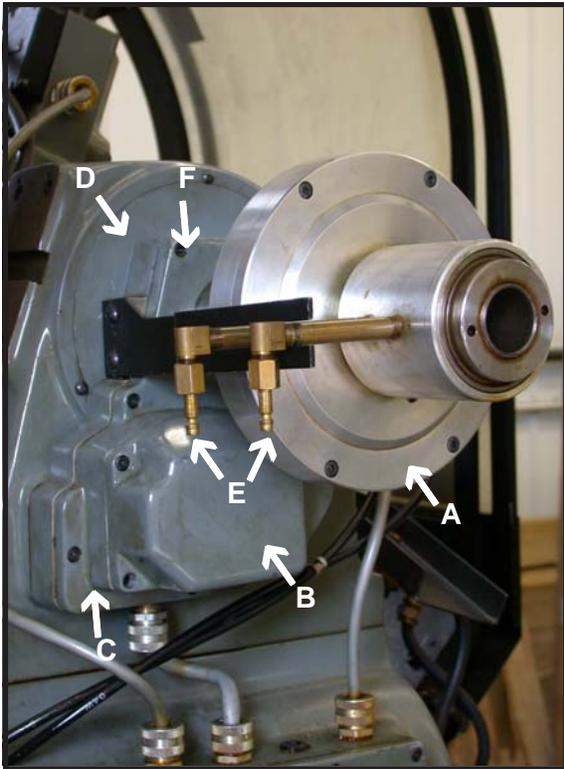

Figure 3.8.1
Collet closer (Figure 3.8.1 - A) and feedback cover (B), and feedback housing (C) have to be removed to remove the cover plate (D) to get to the spindle belts. Mark air lines (E) before removing, push the lock pin so the spindle will not turn. To remove collet closure, see chapter 2.5, figures 2.5.1, 2.5.2 and 2.5.3. If feedback unit has not already been removed see Chapter 3.5.